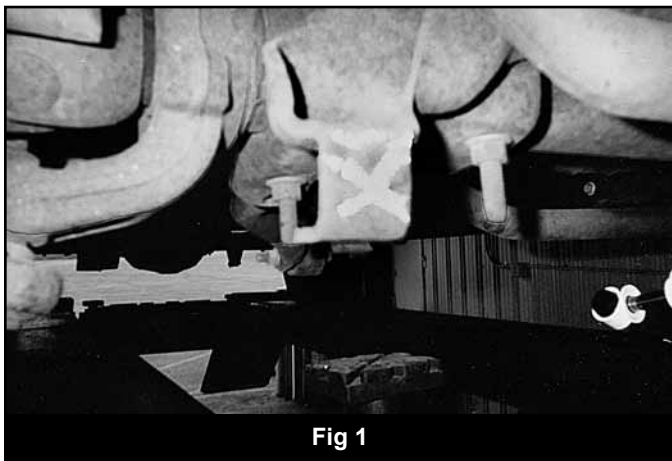

Fig 1
2. Install bracket (01538) as shown on tie rod end. Edge of bracket will be flush with edge of tie rod. Attach with 5/16" u-bolts. Tighten hardware to 17 ft-lbs. (Figure 1)